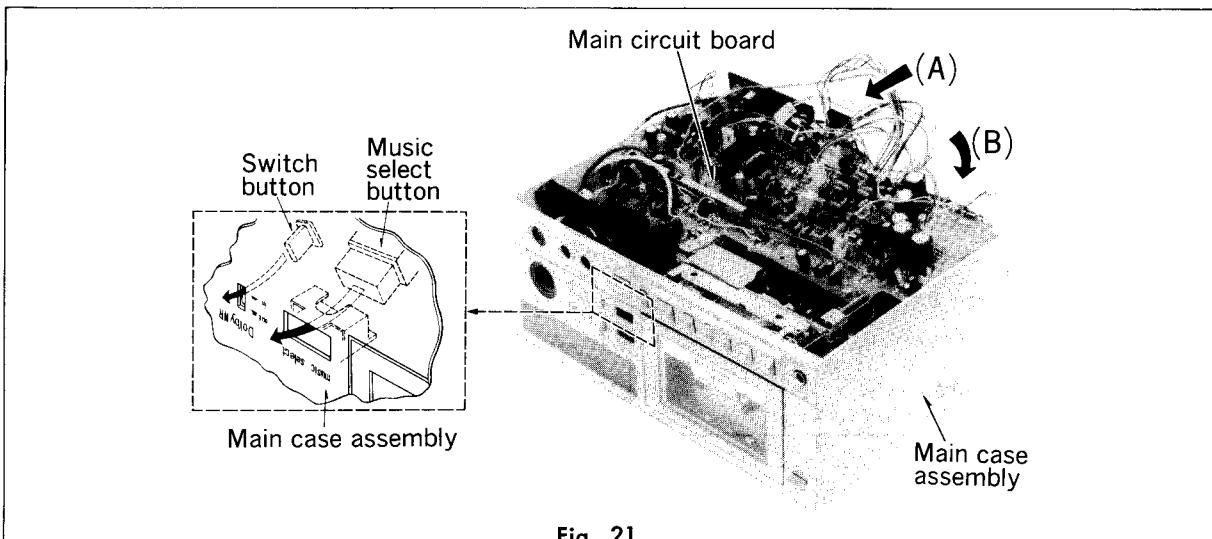

Fig. 21
1. Insert the main circuit board in the direction of the arrow (A) (↙). In this case, the switch button and music select button located on the main circuit board must be in the positions as shown in fig. 21.